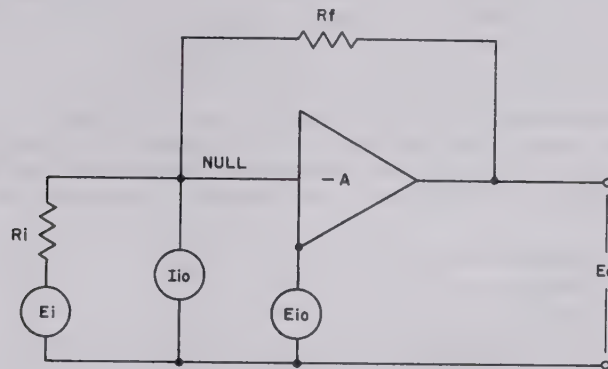

FIG. 4-3 OPS VOLTAGE MODE AMPLIFIER WITH INPUT OFFSET SOURCES.
- 4-11 **AMPLIFIER OFFSETS.** In developing the ideal amplifier model, we tacitly assumed the null junction voltage and current to be zero causing the "ideal" equation (2) to be valid. In reality, however, nonidealities do exist at the null junction or input terminal of the amplifier. These errors are of the form of an offset voltage (E_{iO}) and an offset current (I_{iO}). The modified version of the amplifier model can be shown with these error sources as in FIG. 4-3.